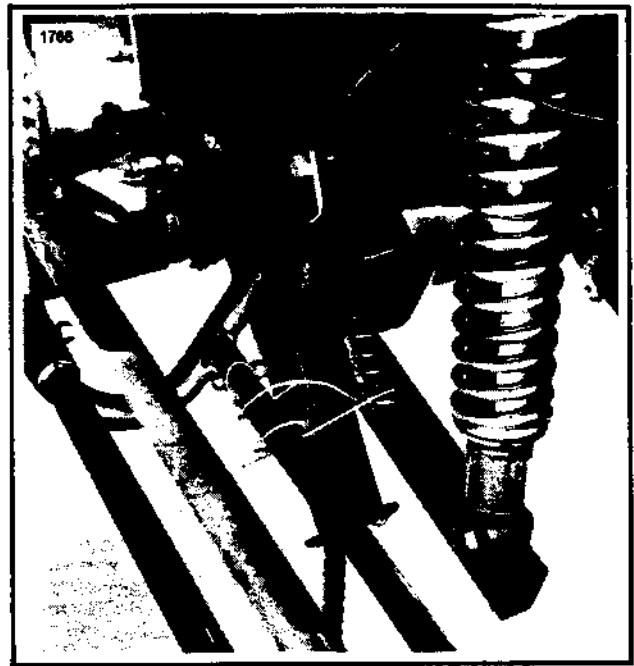

Figure 5. Wiring Chain to Saddlebag Bracket
3. See Figure 5. Pull the upper boot forward and rotate the rear wheel until the chain master link appears at the opening a few inches in front of the upper sprocket housing. Shift the transmission into first gear and remove the chain master link. Wire the front portion of the chain to the saddlebag bracket as shown to prevent the chain from rotating off the transmission sprocket.